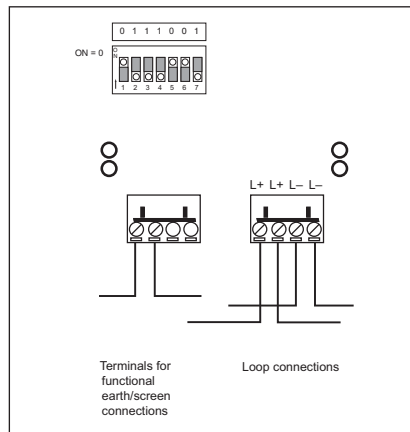

Fig 2 Terminal block connections and address 78 set
2. Remove terminal blocks from the PCB. Run the cables from the loop into the backbox and connect them to the terminal blocks as shown in Fig 2. Ensure that functional earth/screen continuity is maintained. Screens should be connected to the yellow terminal block marked 1-4 on the PCB cover.
The switch in Fig 2 shows address setting 78 as an example of how to set the address